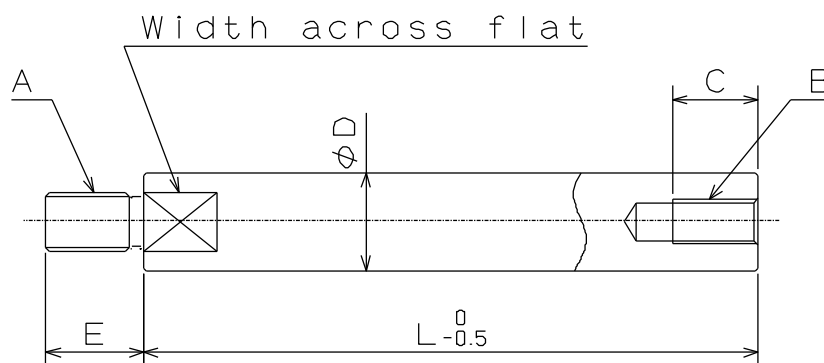

Fig.20
- Keep the dimension D in Fig. 20 for the draw bar and a material with the tensile strength 380MPa (38kgf/mm²) or more must be used.